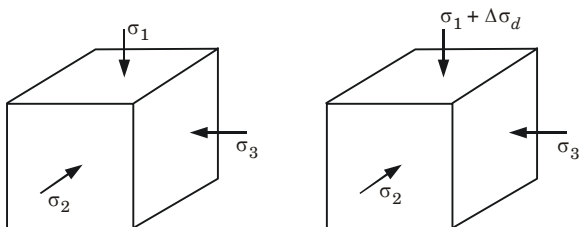

Fig. 3. Pore pressure under deviator stress.
1. Let us consider the element of a saturated soil which is in equilibrium under three principal stresses σ_1 , σ_2 and σ_3 , are shown in Fig. 3.